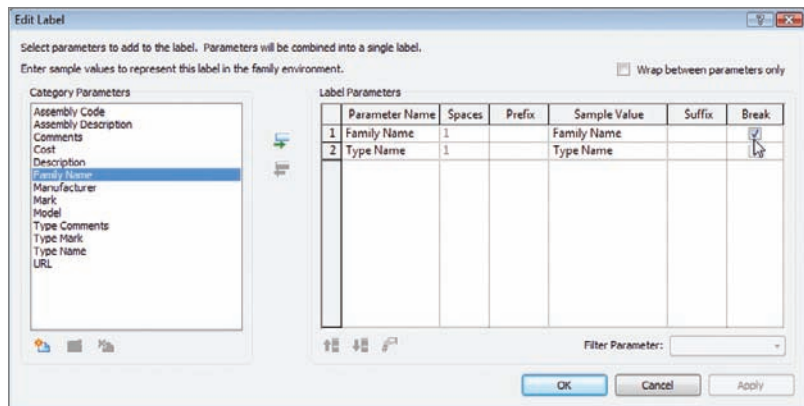

FIGURE 11.89 This time you are actually adding two parameters. By clicking the Break button, you are telling Revit to “stack” the parameters.
6. In the Edit Label dialog, add the Family Name and Type Name parameters, as shown in Figure 11.89.
7. In the Family Name row, click the Break check box (see Figure 11.89).